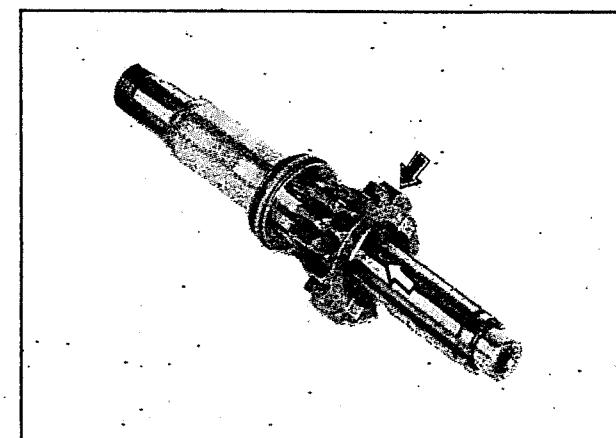

Fig 3.45
- Take off the circlip, and then remove the 3rd drive gear and washer (fig 3.45)